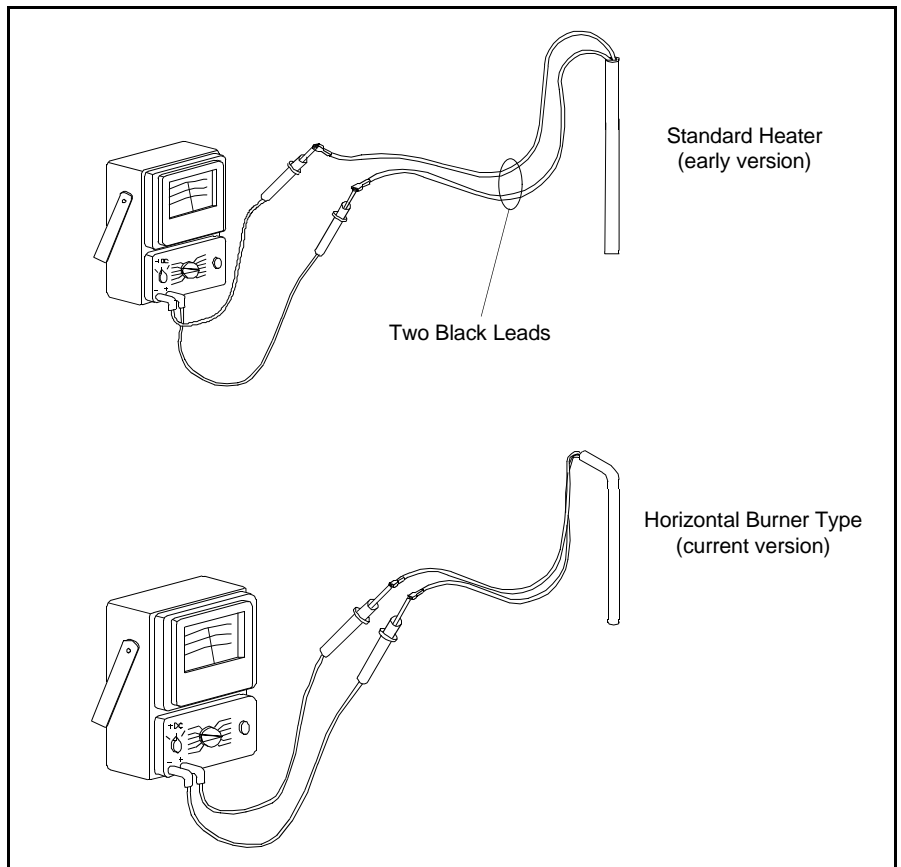

Figure 5.52 Heater Resistance Check
24. If 120 Volts AC is present, check resistance of AC Heater element as shown in Figure 5.52. If not within the allowable specification (see Technical Data section), replace with one of the correct size and wattage.